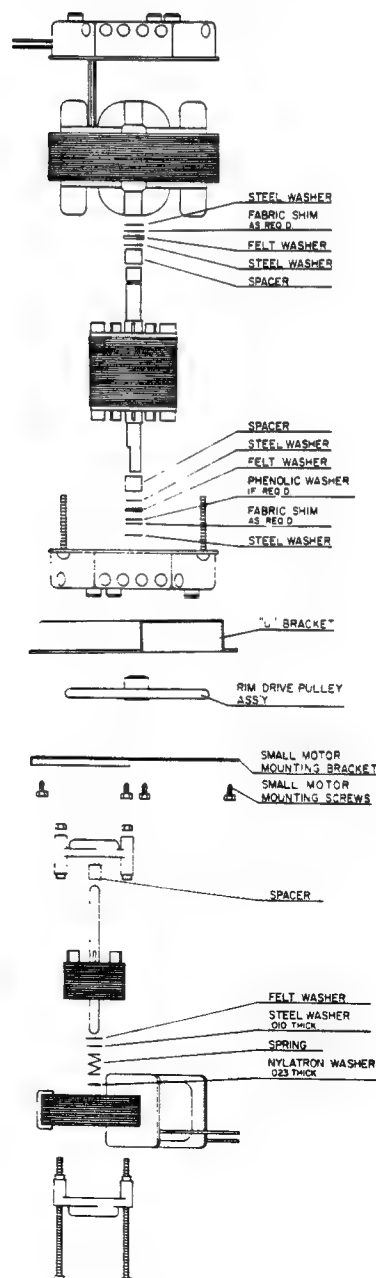

Fig. 11
If the motors must be completely disassembled, use Figure 11 as a guide. Use emery paper 3/20 grit or finer to smooth off any burrs or deep scratches on the large motor shaft before detaching the large motor and bells. This will prevent damage to the bearings within these end bells.
2. Detach the large motor from the small motor by removing its four mounting bracket screws. (See Fig. 11.)